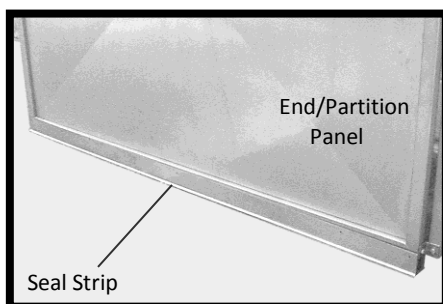

Figure 25: Seal Strip in place on End/Partition Panel
6. Set both end/partition panels in place with the levelers in the channel (Figure 25) and install the trough cover (if used). Make sure the panels are even with both ends of the channels.